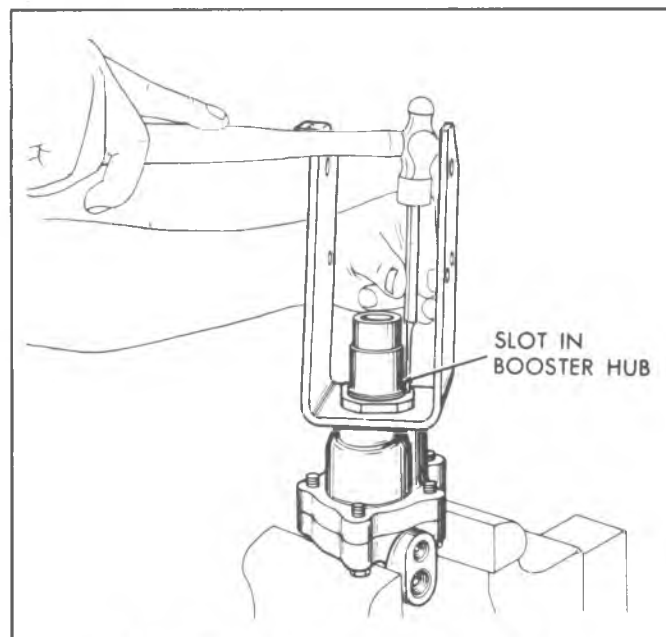

Fig. 5-16E--Staking Mounting Bracket Nut
22. Use a hammer and a small punch inserted into the staking groove of the nut, at the slot in the booster hub (fig. 5-16E), to stake the nut in place. Be sure that the outer thread of the nut is upset.